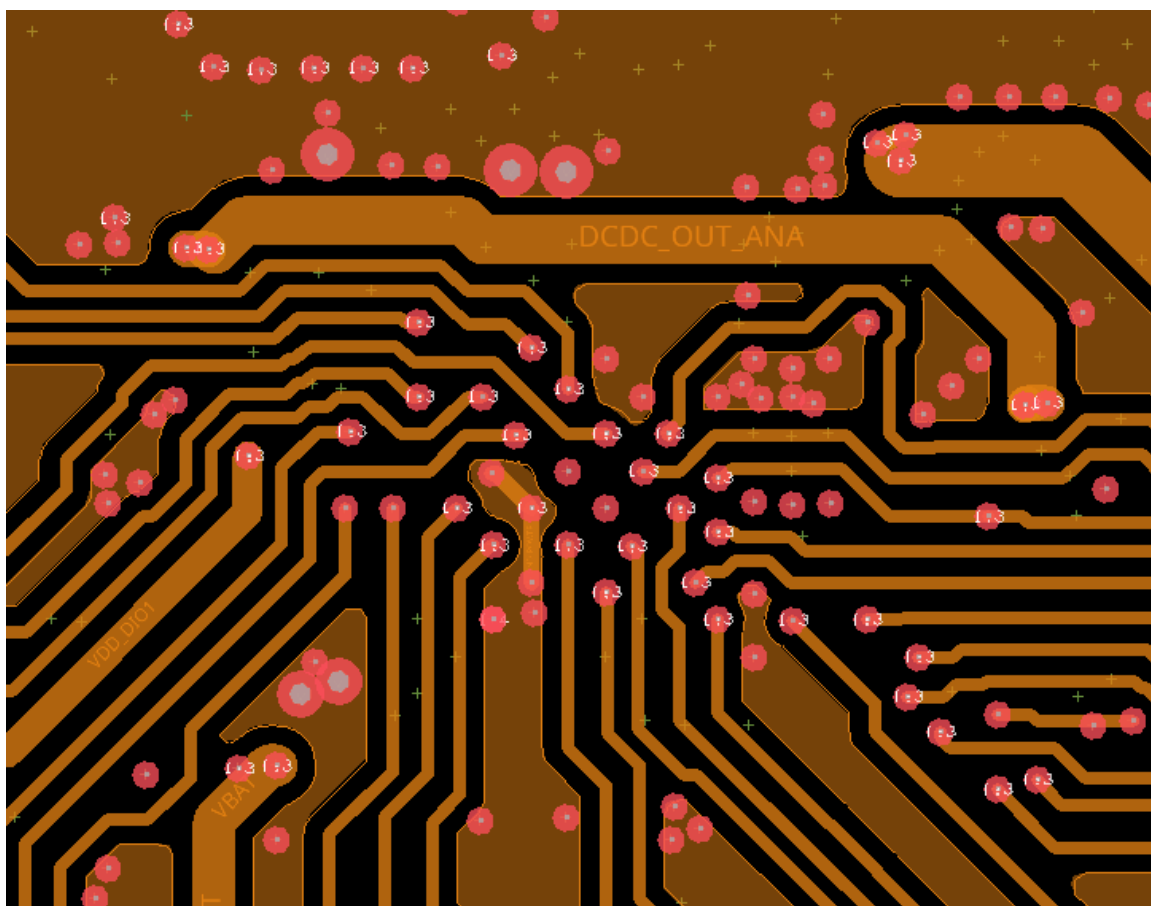

Figure 21. L3 internal layer, RA6W1 – WLCSP
- L3 internal layer is used for routing all rest signals, see Figure 21.